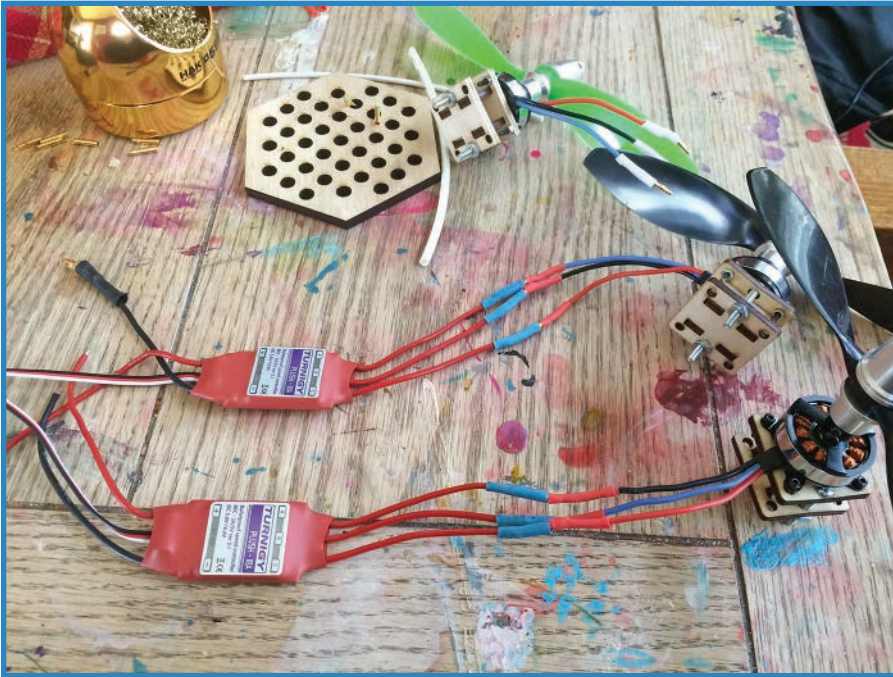

FIGURE 10.18 Snap the bullet connectors together to connect the drone's motors and ESCs to the wiring harness.
- 6. Attach everything!** Zip-tie the battery to the wooden platform. However, don't connect the XT60 ends together—we're not ready to fly yet! Grab the ESC and motor combos (see Figure 10.18) then connect the 16-gauge ends of the wiring harness to the ESCs by snapping together the bullet connectors.